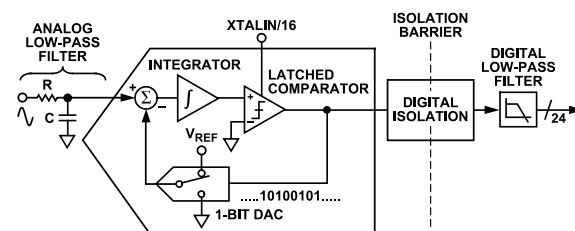
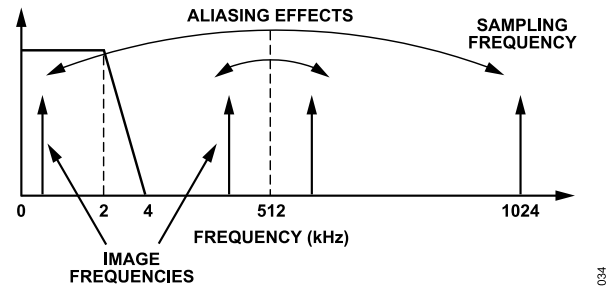

Figure 32. First-Order Σ - Δ ADC
Figure 34. Aliasing Effects
The ADE9103/ADE9112/ADE9113 have three, second-order, multi-bit Σ - Δ ADCs. For simplicity, the block diagram in Figure 32 shows a first-order Σ - Δ ADC. The converter is composed of the Σ - Δ modulator and the digital low-pass filter (LPF), separated by the digital isolation block.
Figure 32 shows an analog LPF (RC) on the input to the ADC. This filter is placed outside of the ADE9103/ADE9112/ADE9113, and its role is to prevent aliasing. Aliasing is an artifact of all sampled systems, as shown in Figure 34. Aliasing refers to the frequency components in the input signal to the ADC that are higher than half the sampling rate of the ADC and appear in the sampled signal at a frequency less than half the sampling rate. Frequency components more than half the sampling frequency (also known as the Nyquist frequency, that is, 512 kHz) are imaged or folded back down to less than 512 kHz, which happens with all ADCs, regardless of the architecture. In Figure 34, only frequencies near the sampling frequency of 1.024 MHz move into the bandwidth of interest for metering, that is, 40 Hz to 3.3 kHz, or 40 Hz to 2 kHz. To attenuate the high frequency noise (near 1.024 MHz) and prevent the distortion of the bandwidth of interest, a LPF must be introduced. It is recommended that one RC filter with a corner frequency of 7 kHz be used for the attenuation to be sufficiently high at the sampling frequency of 1.024 MHz. The 20 dB per decade attenuation of this filter is usually sufficient to eliminate the effects of aliasing.